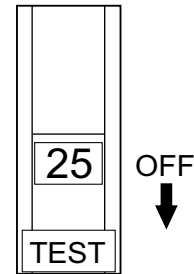

Figure 25. AC Circuit Breaker (OFF)
1. Place AC circuit breaker (Figure 25) in the **OFF** position